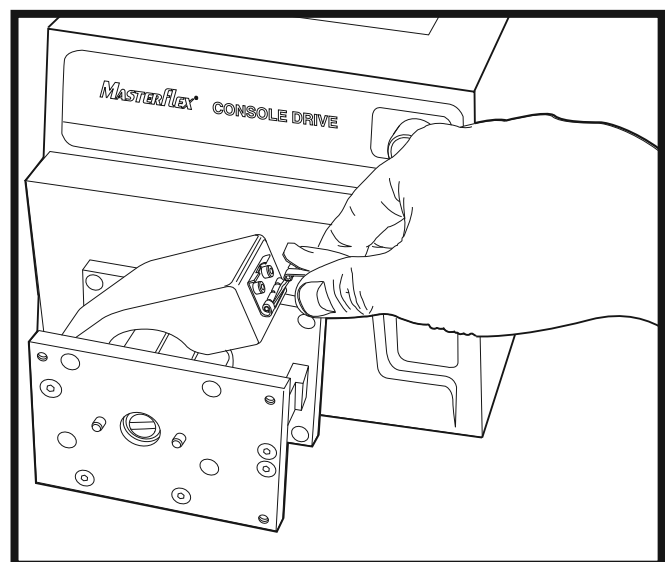

Figure 5. Release latch and open occlusion bed.
1. Release latch and open occlusion bed (Figure 5).